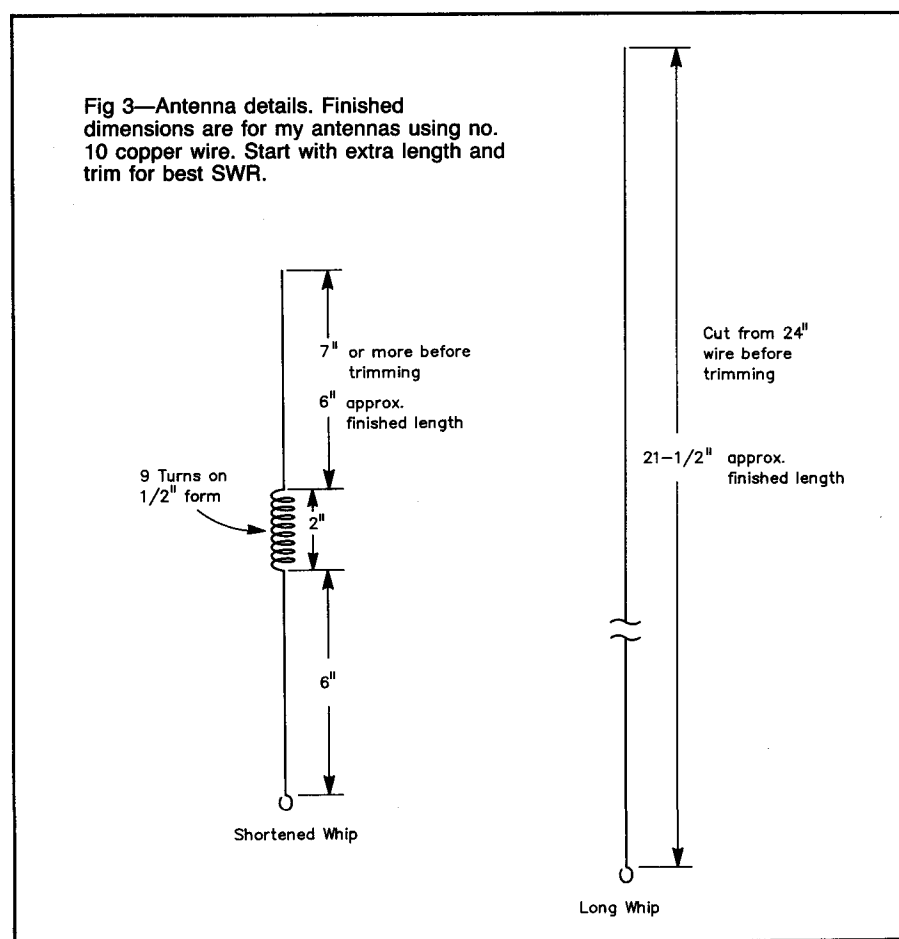

Fig 3—Antenna details. Finished dimensions are for my antennas using no. 10 copper wire. Start with extra length and trim for best SWR.
Fig 3 gives finished dimensions for antennas I've made. The length for best SWR may be slightly different when the antenna is mounted on your car, but that shouldn't matter because you'll be starting with a longer element length and trimming to size.
Fig 3—A 14-gray-shade HF weatherfax infrared IR image. On a cold winter day, the warmer Gulf Stream is visible off the East Coast. IR imagery is used mainly to determine cloud height by measuring the cloud temperature. This image was printed on a Seiksha SP-1000I printer.
- **14GREY** and **8GREY**—These programs provide 14 and 8 shades of gray, respectively. **8GREY** needs 512 kbytes of RAM; **14GREY** requires 640 kbytes. **14GREY** uses a double printer-head pass to produce the additional gray shades (see Fig 3). **8GREY**, which uses a single printer-head pass, is adapted for use with inkjet printers that “blot” adjacent pixels when the two printer passes of **14GREY** are used. **8GREY** can also be used to reduce printing time, printer wear and memory storage requirements.